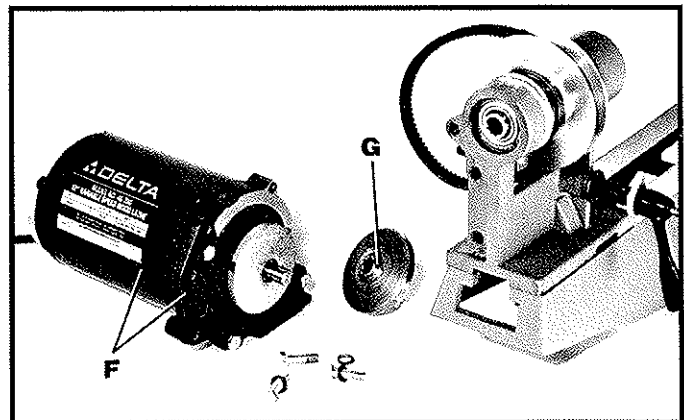

Fig. 90
7. Fig. 90, illustrates the motor and motor bracket (F) removed from headstock and motor pulley half (G) removed from motor shaft.